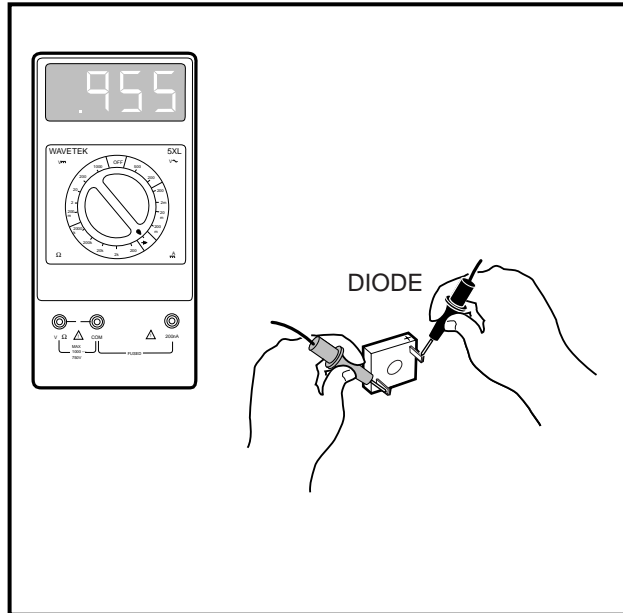

Figure 11-35 Diode Test
- With the multimeter set to the diode test function ($\rightarrow|$), connect the black (-) probe of the multimeter to the (+) terminal of the diode and the red (+) probe on the other terminal of the diode (**Figure 11-35, Page 11-31**). The reading should be approximately 960 mV.